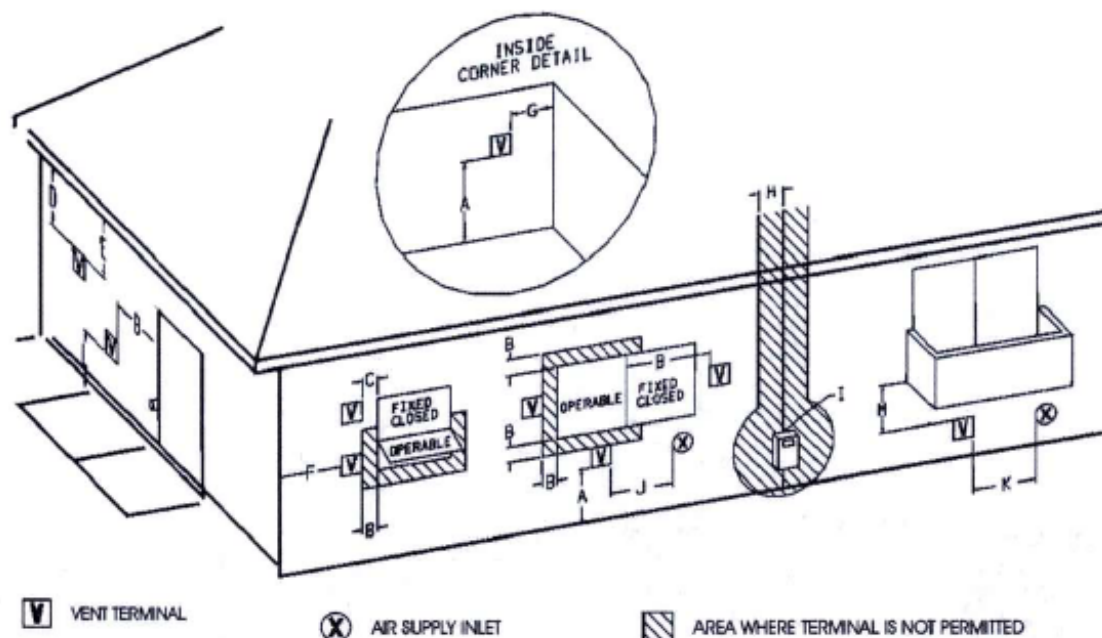
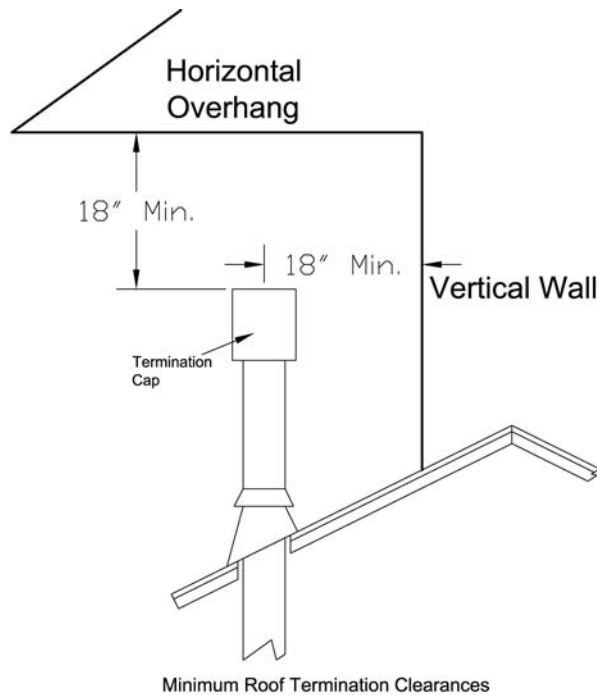

Figure 8: Termination Location & Clearances
Figure 9: Termination Cap clearances
- The termination must meet the requirements outlined in Figure 8 and Figure 9.
-The termination must meet the requirements outlined in *Figure 8 & 9*. Use a vinyl siding Stand off when installing against vinyl siding.